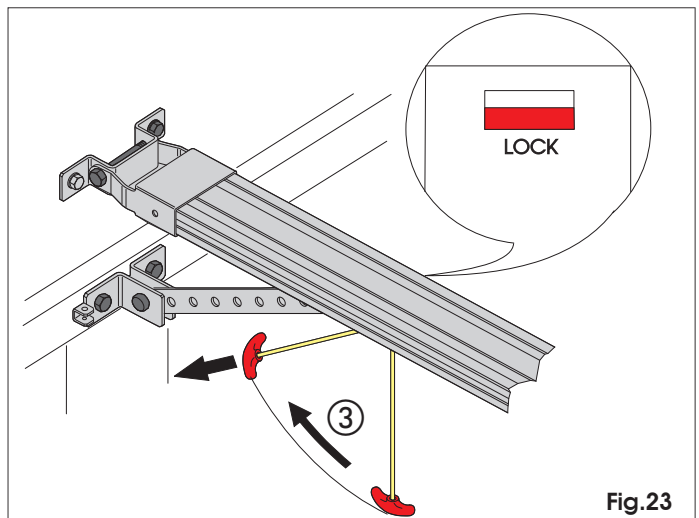

Fig.23
- 4) Pull the release handle horizontally in the direction of the door (Fig. 23). Check if, when the handle is released, the LOCK window under the carriage is red. Move the door manually until you find the carriage's hook-on point.